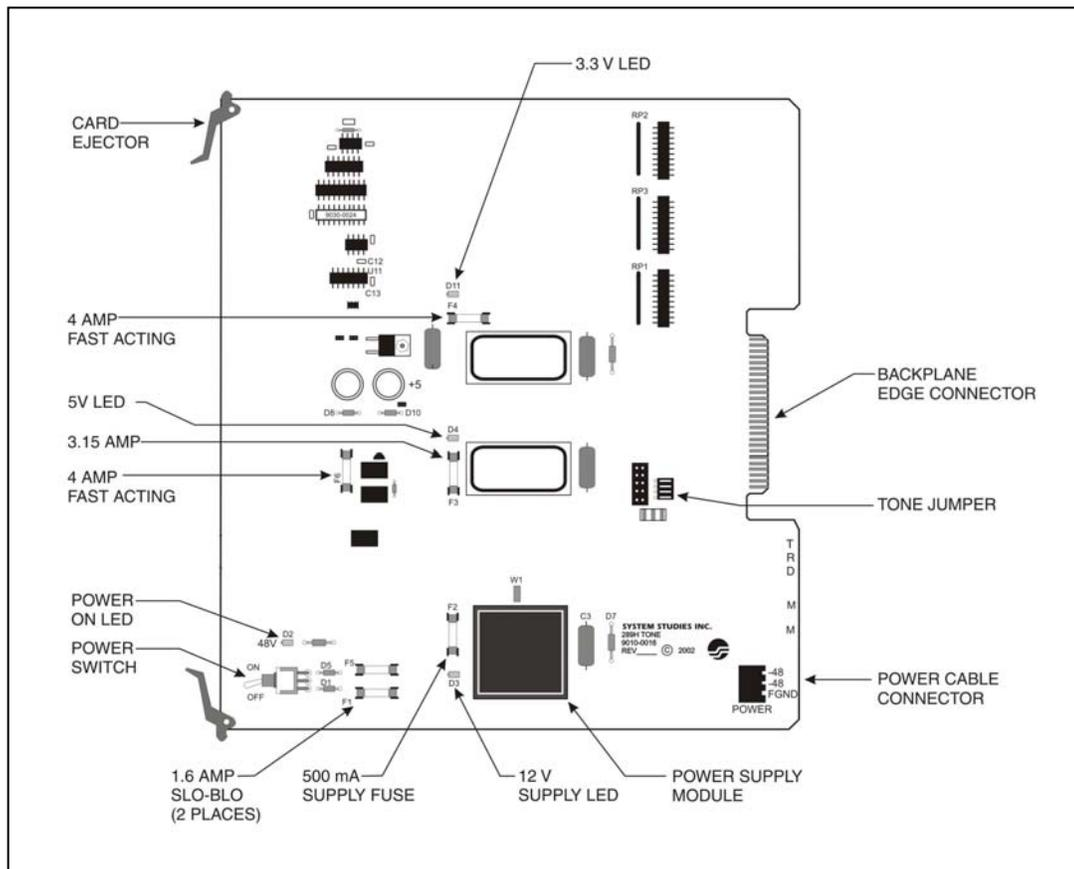

FIGURE A2-1: 289H TONE UTILITY CARD
1. Is the 48 volt supply indicator light located at the front of the Utility Card on? The 48 volt power-on LED is located in the lower left corner of the card, as shown in FIGURE A2-1.
- Are the three LEDs in the middle of the Utility Card on? On the Tone Utility Card (FIGURE A2-1), they are identified as D3, D4, and D11. On the older Utility Card (FIGURE 1-5 in Section 1 of this manual), they are identified as D3, D4, and D5.